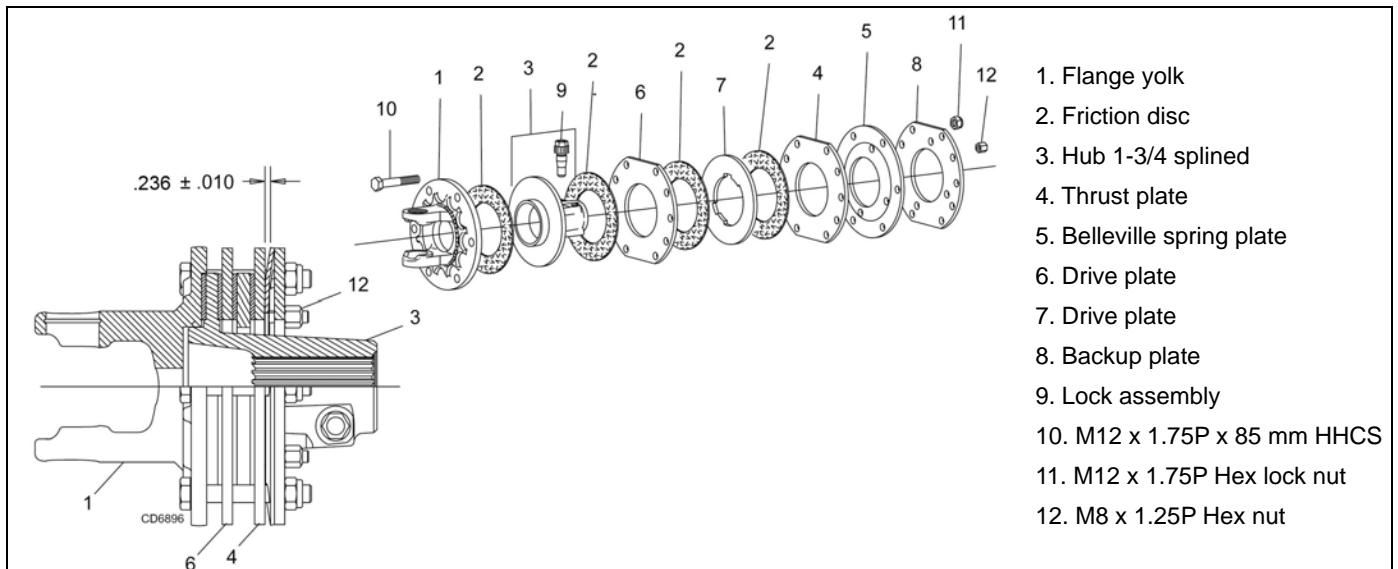

Figure 10. 4-Plate Slip Clutch Assembly
(Figure 10)
2. Tighten four nuts (12) to remove pressure from the clutch plates (2). Repeat for all three clutches.
4. If clutches slip freely, completely loosen nuts (12).
5. If clutch does not slip freely, disassemble and clean plates (4, 6, & 7), flange yoke (1), and clutch hub (3).
7. Tighten Belleville spring (5) with nuts (11) until it is against the thrust plate (4) of the clutch. Back off each of the four nuts (11) until gap between Belleville spring and thrust plate is .236" as shown in Figure 10.
8. If a clutch continues to slip when the spring is compressed to .236" gap, check friction discs (2) for excessive wear. Discs are 1/8" when new. Replace discs after 1/16" wear. Minimum disc thickness is 1/16".